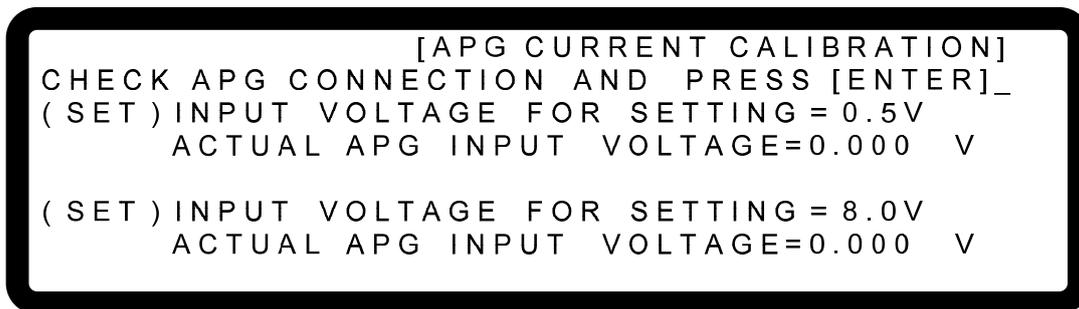

Figure 3-117
2. Press “ENTER” to confirm entering into APG Voltage Calibration options as Figure 3-117 shows.